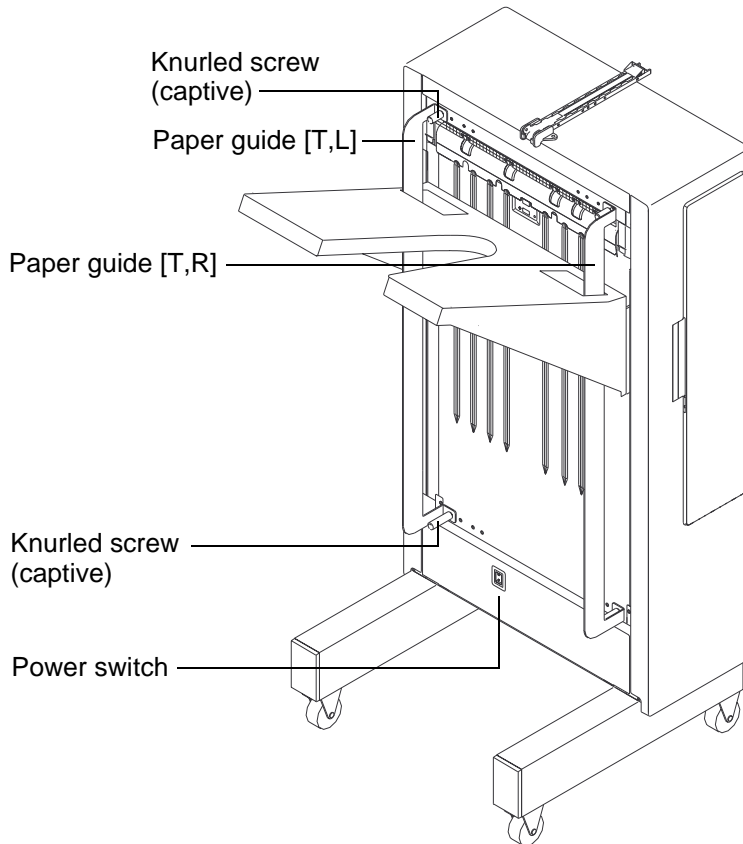

Figure 8 Left and right paper guides
Step 3 Locate the left paper guide and slide it through the left slot of the paper tray. See Figure 8.
See Figure 8.
The power switch is on the lower front of the HCO. See Figure 8. It takes a few seconds for the HCO to perform power-up diagnostics.